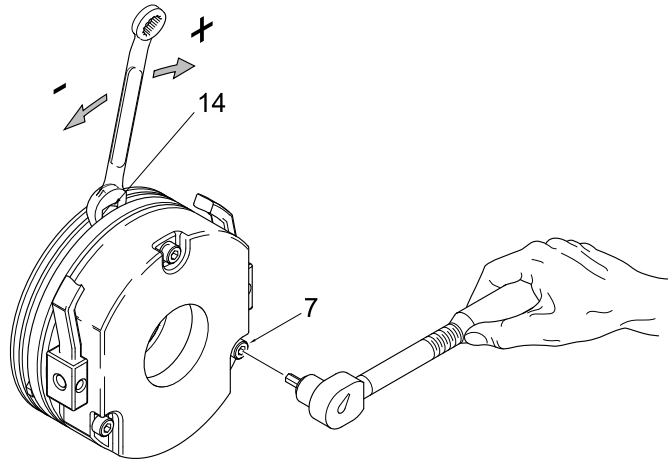

Figure 35 – Adjusting the Hoist Brake Air Gap
Where adjustment is required, slacken the assembly screws (7). Adjust the air gap by turning the adjustment tubes (14) until the nominal air gap 'a' is reached (Figure 35).
- If the air gap is too large, screw the three adjustment tubes (14) into the stator. If the air gap is too small, screw the adjustment tubes out of the stator.